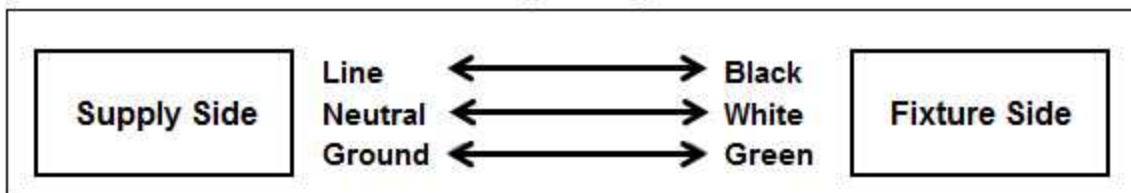

Figure 2
4. Connect wires as shown in wiring diagram (see Figure 2 below).
2. Connect the driver black lead to Line supply lead. (see Fig. 2)